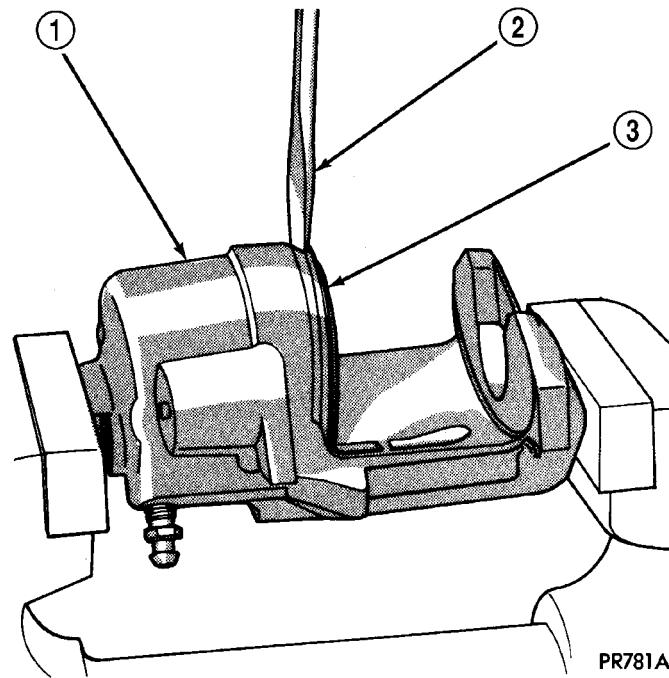

Fig. 46 Removing Caliper/Piston Dust Boot
(4) Mount the caliper in a vise equipped with protective jaws.
(5) Remove the piston dust boot from the caliper and discard (Fig. 46).